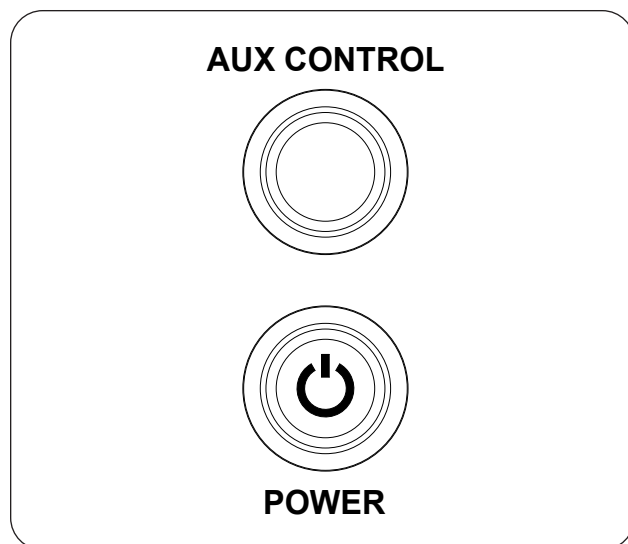

Fig. 39-1 Manual Operation:
1. Locate the control panel on the side of the unit (refer to the IDENTIFICATION PARTS LIST if needed), and identify the **AUX CONTROL** and **POWER** buttons (see Fig. 39-1).
**WARNING: If the pilot fails to light within 15 seconds, or if the burner fails to light within 15 seconds of pilot lighting, push the POWER button on the control panel to turn off. Allow five (5) minutes for any gas in the unit to dissipate, then repeat steps 1-2 above. IF YOU SMELL GAS, SEE STEP C ABOVE.**
**To shut down the burner (system will remain on)**, push the **AUX CONTROL** button (see Fig. 39-1).
**To shut down the burner and system (total shutdown)**, push the **POWER** button (see Fig. 39-1).